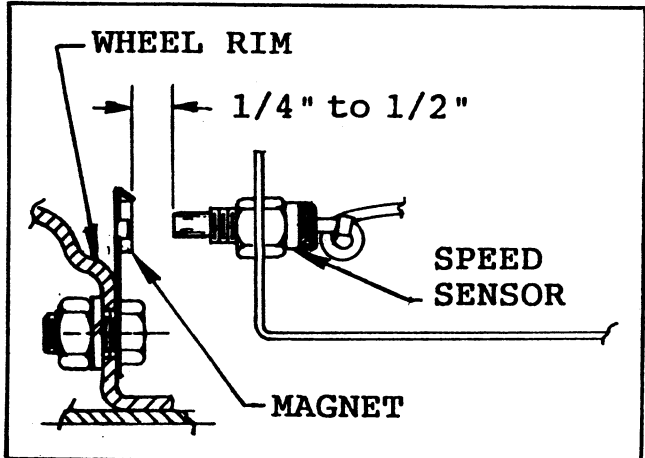

FIG. 4
■ Mount the magnet clip to the inside of the Vehicle's left-front wheel. Use the 7/16" bolt, lock washer and nut (in parts bag) to secure the clip to one of the square holes in the wheel rim. See FIG. 4.
■ Turn one 3/8" locking nut onto the sensor and insert the sensor into the large hole in the mounting bracket as shown in FIG. 4. and turn on remaining lock nut. Adjust nuts until the tip of the sensor extends a minimum of 1/4 inch beyond the locking nut.